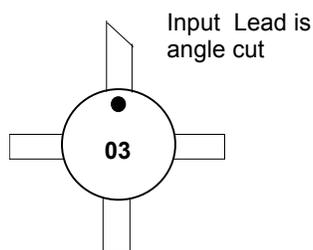

Figure 1A
- The DOTS on the MMICs (IC1 - IC7) determine their orientation (See Figure 1A) and must be observed and positioned correctly prior to soldering. IC 9 is configured by its tab. The PHEMT (Q6) orientation is determined by it's lead formation (See Figure 1B) which corresponds to the assembly diagram. Leads on all active surface mounted components should be somewhat flat against the mounting surface, if they are not, a tool such as a small bladed screw driver can be used to flatten them.